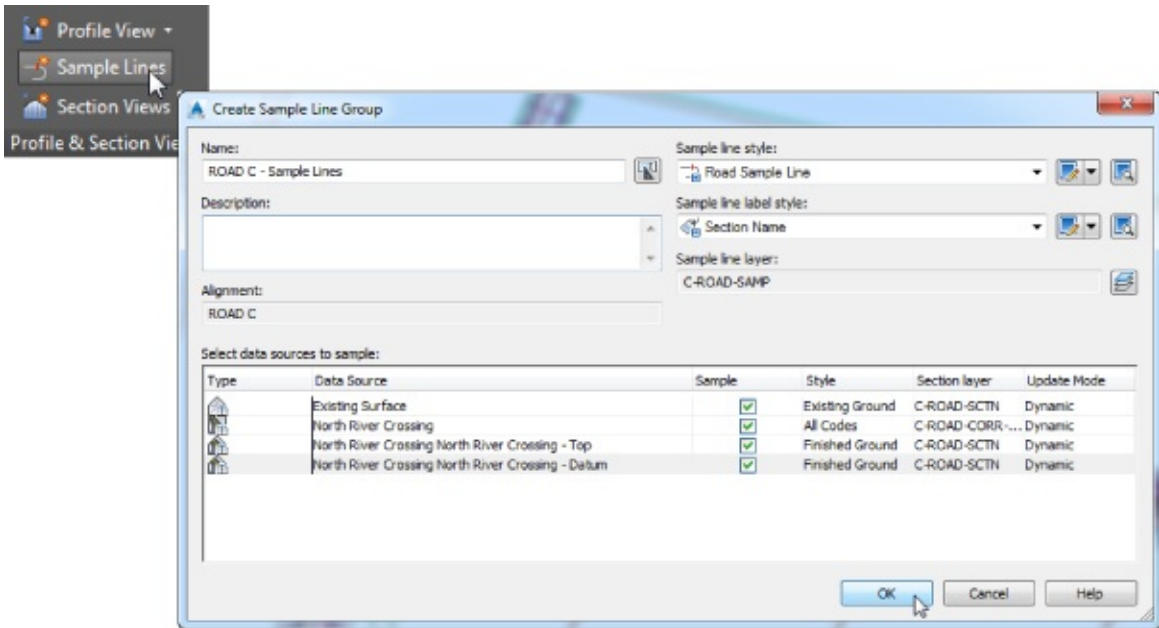

Figure 12.4 Click the Sample Lines icon to open the Create Sample Line Group dialog.
To create a sample line group, change to the Home tab > Profile & Section Views panel and choose Sample Lines. After you select the appropriate alignment, the Create Sample Line Group dialog, shown in Figure 12.4, will appear. You should name the sample line group and verify the sample line and label styles.
7. When your dialog looks similar to Figure 12.4 (your sampled items may be listed in a different order), click OK.